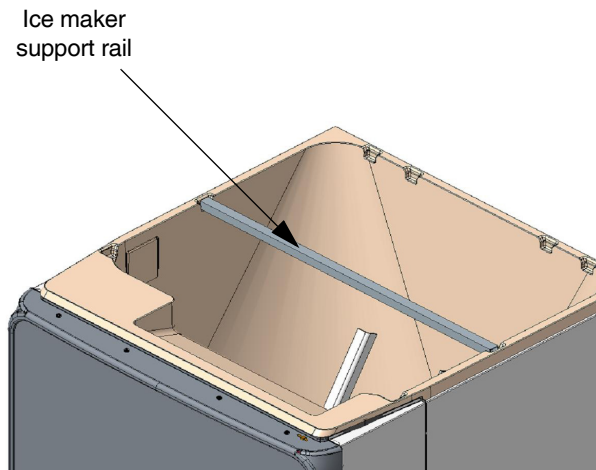

Figure 2. Ice maker support rail
2. Place the ice maker support rail into the middle set of pockets in the ice bin. See Figure 2.